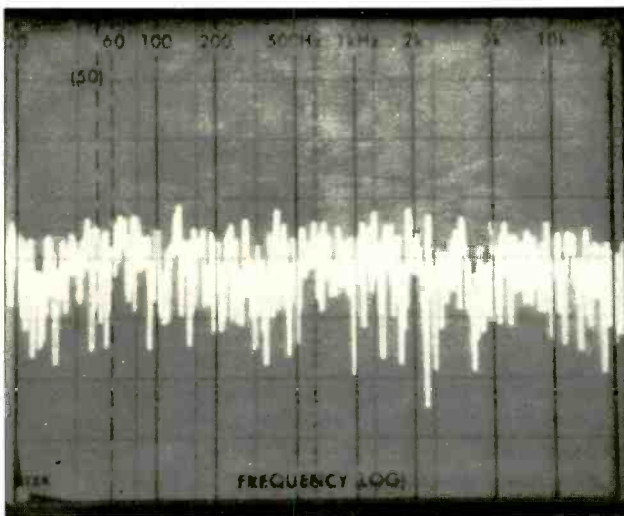
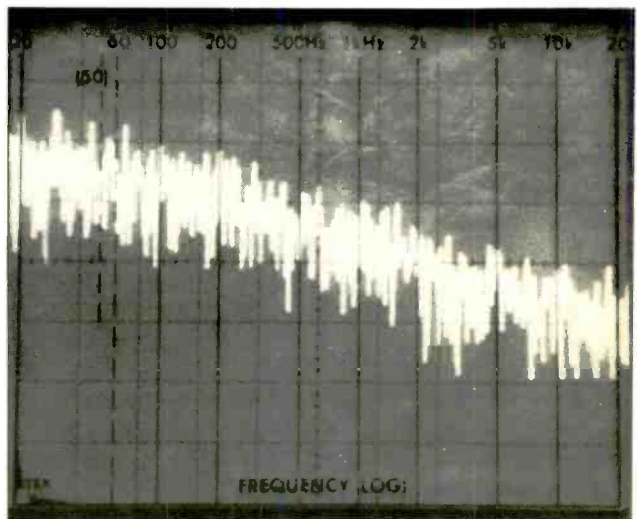

Fig. 1: Pulsar RTA-150: Spectrum analysis display (from 20 Hz to 20 kHz) of pseudo-random white noise signal produced by the unit.
Fig. 2: Pulsar RTA-150: Spectrum analysis display (from 20 Hz to 20 kHz) of pink noise signal produced by the RTA-150.
the unit impressed us as a thoroughly professional instrument of enormous versatility and precise and excellent capabilities. *Fig. 1* and *Fig. 2* show the difference between white and pink noise as produced by the RTA-150 and plotted on our own storage 'scope spectrum analyzer. While white noise delivers constant amplitude at all audio frequencies, pink noise delivers constant power per bandwidth. Thus, the white-noise spectrum (*Fig. 1*) is averaged across the audio band as a horizontal display, while the pink noise (*Fig. 2*) slopes downward at the rate of 3 dB per octave. In both displays, frequencies increase logarithmically from 20 Hz to 20 kHz, so the distances between octaves are equal across the band.
Fig. 2: Akai GX-747: In both A and B, upper trace is for 0 dB record level; lower trace, for -20 dB level. 2A shows "EE" tape; 2B, "normal" tape. While frequency response for low-level (-20 dB) recording is the same for EE tape (A) and normal tape (B), at 0 dB record level, response extends further for "EE" tape.